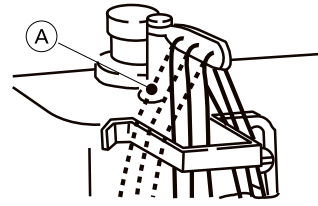

Figure 15
- Ⓐ 标准线程, 请按照图15的实体线。
- For standard threading, follow the solid lines of Figure 15.